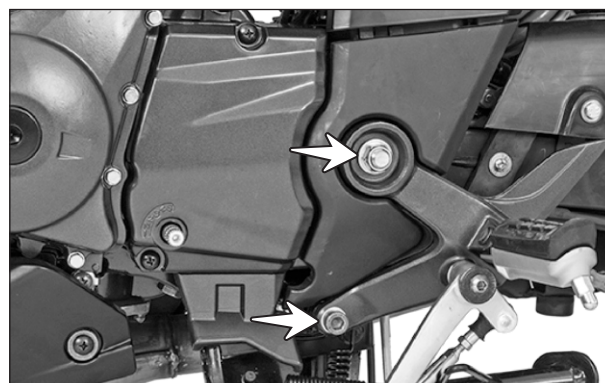

Fig. 2.102
- In-order to remove the foot rest assembly, remove the swing arm axle nut along with punched washer. (Fig. 2.102)
- Also, remove the hexagonal socket head cap screw (M10x25 - 1 no.) along with punched washer from the rider foot rest assembly and take out the rider foot rest assembly. (Fig. 2.102)